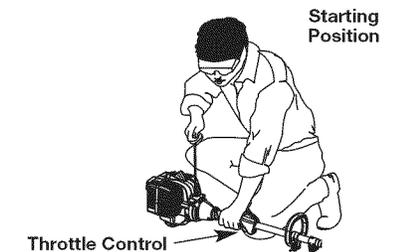

Fig. 18
WARNING: Avoid accidental starting. Make sure to be in the starting position when pulling the starter rope (Fig. 18). To avoid serious injury, the operator and unit must be in a stable position while starting.
- Crouch in the starting position (Fig. 18). Do not squeeze the throttle. Pull the starter rope with a controlled motion until the unit starts.
- Crouch in the starting position (Fig. 18). Do not squeeze the throttle. Place the Plug-In Power Start or Power Bit Start into the back of the unit. Refer to the *Operation* section of the Plug-In Power Start or Power Bit Start operator's manual.
- Press and hold the ON (I) button of the Plug-in Power Start or Power Bit Start equipped drill in intervals no longer than 4 seconds each until the unit starts.
- Wait and allow the unit to idle for 5 - 10 seconds. If the unit stops running during this time, squeeze the throttle control, then press and hold the ON (I) button of the Plug-in Power Start or Power Bit Start equipped drill in intervals no longer than 4 seconds each until the unit starts.